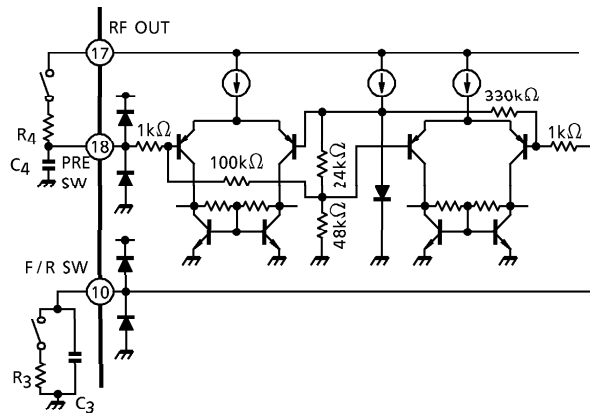

Fig.2 Internal equivalent circuit of F/R SW and PRE SW and the external circuits reducing a pop sound in switchover
(3) F/R SW
The terminal of F/R SW (pin⑩) should not be applied to higher voltage than  $V_{17}$  (RF OUT), because the ripple filter circuit supplies the F/R SW circuit with power source. And in reverse mode, the terminal of F/R SW should be connected with GND line through  $R_3$  ( $180\sim 270k\Omega$ ), because the F/R SW circuit doesn't operate normally. It is advised to connect an external capacitor ( $C_3 \cong 1\mu F$ ), in order to reduce a pop sound in switchover between F/R mode (see Fig.2). As for the constants, select the optimum one depending on each a set carefully.
It is advised to connect a external resistor ( $R_4 = 100 \sim 330k\Omega$ ) and capacitor ( $C_4 \doteq 1\mu F$ ), in order to reduce a pop sound in switchover between PRE SW on/off mode (see Fig.2). As for the constants, select the optimum one depending on each a set carefully.